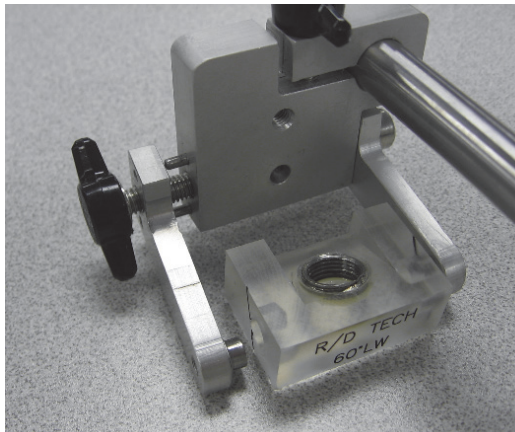

Figure 1-2 Pulling the fork arm away from the probe holder
1. On the side of the fork, unscrew the wing screw enough so that you can pull the fork arm away from the probe holder (see Figure 1-2 on page 12).